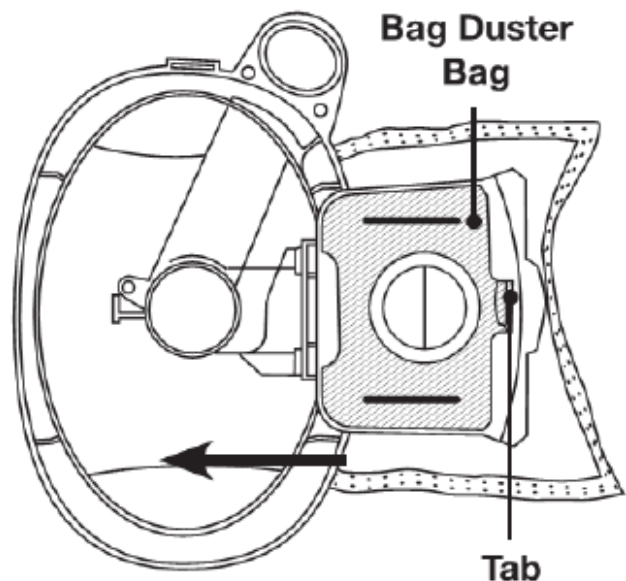

FIG 16
3. Holding the **HEPA** dust bag in your hand, slide it out from the slots in the bag holder. Hold carefully in order to avoid having dust fall out of the **HEPA** dust bag. (Fig. 16)